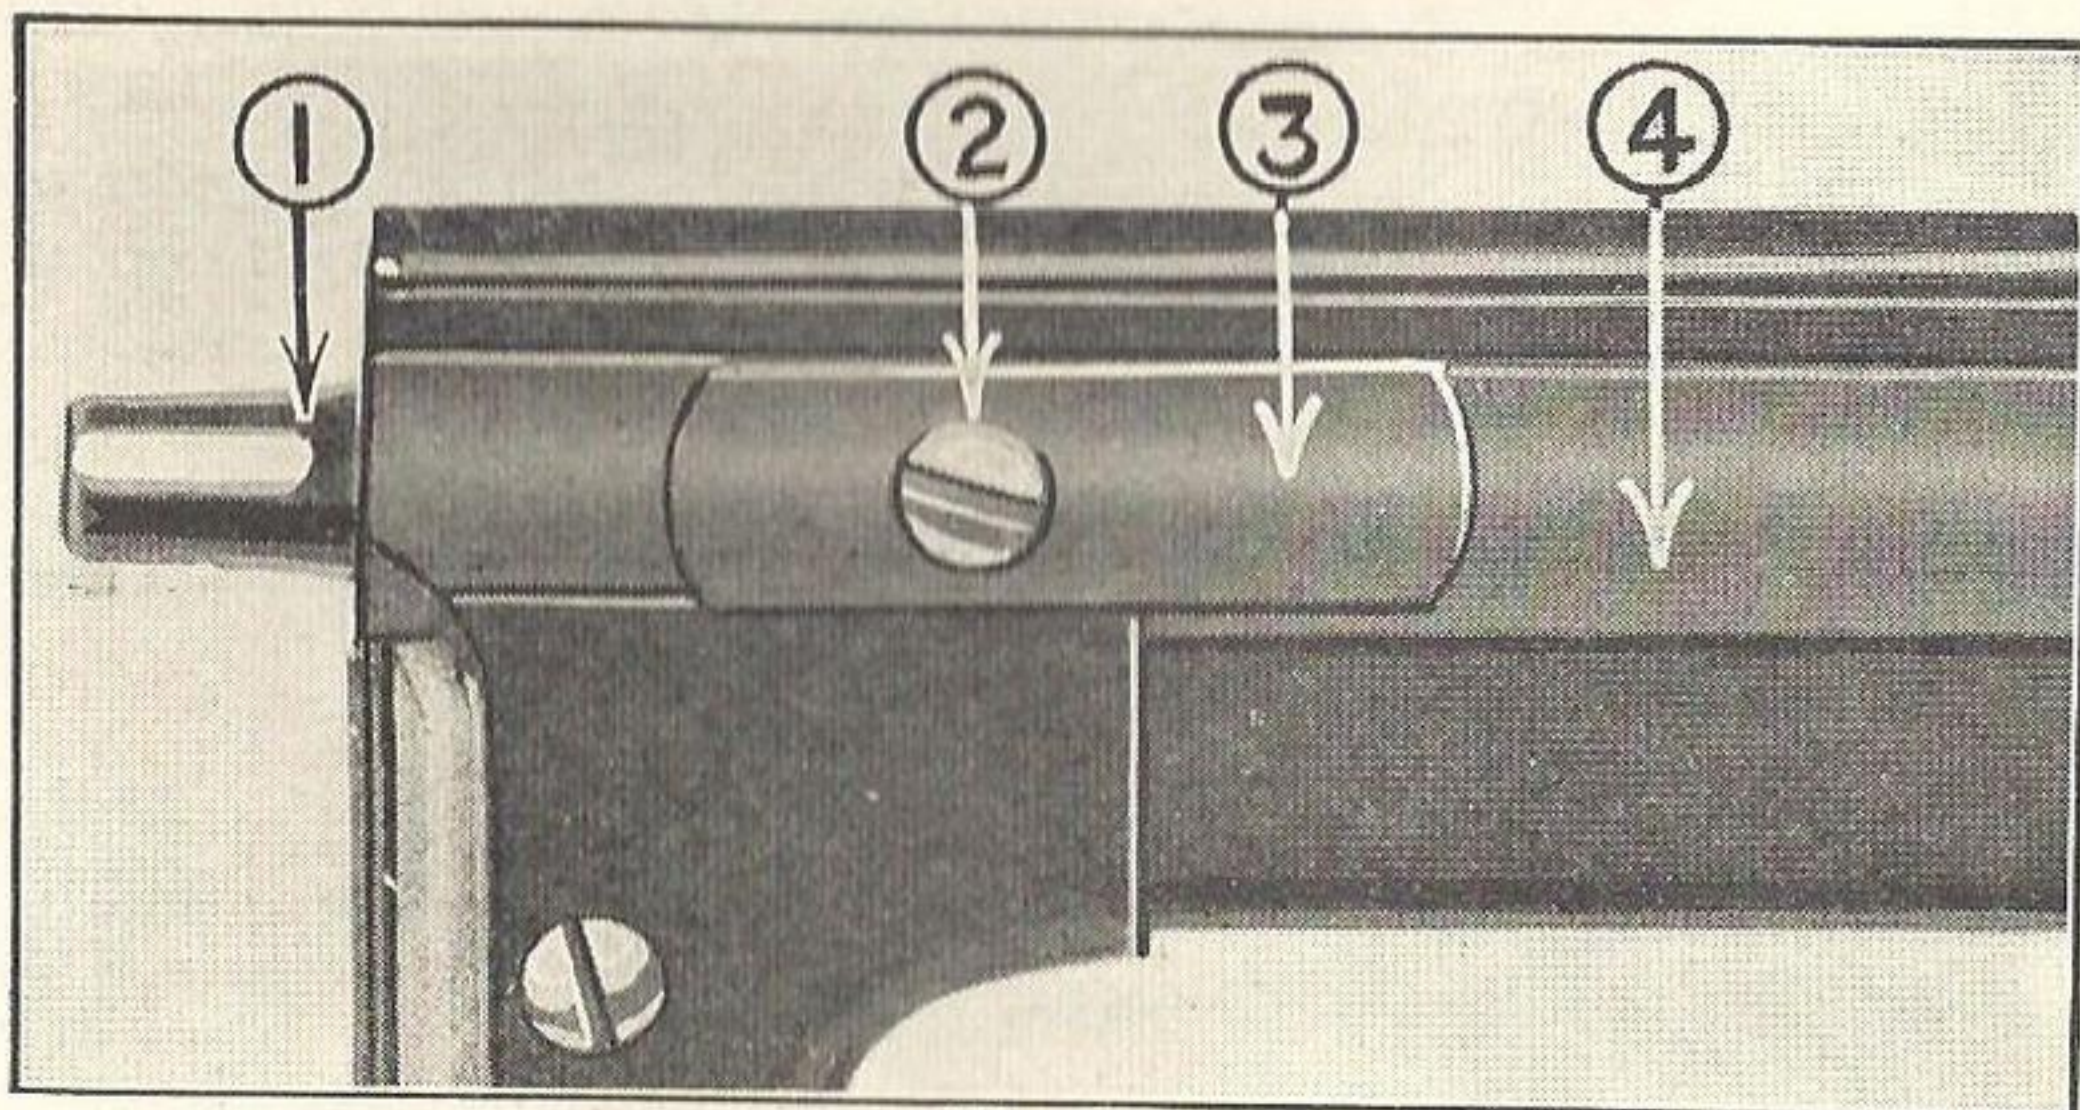

Fig. 16
4. Windshield pivot bearings (on each end of top windshield bar). Refer to Fig. 16.
The pivot bearings on each end of the windshield top bar may be adjusted by loosening the screw on either end of the top bar and pressing outward on the small metal plate at the same time lifting upward on the windshield. Tighten screw before moving windshield. Refer to Fig. 16.